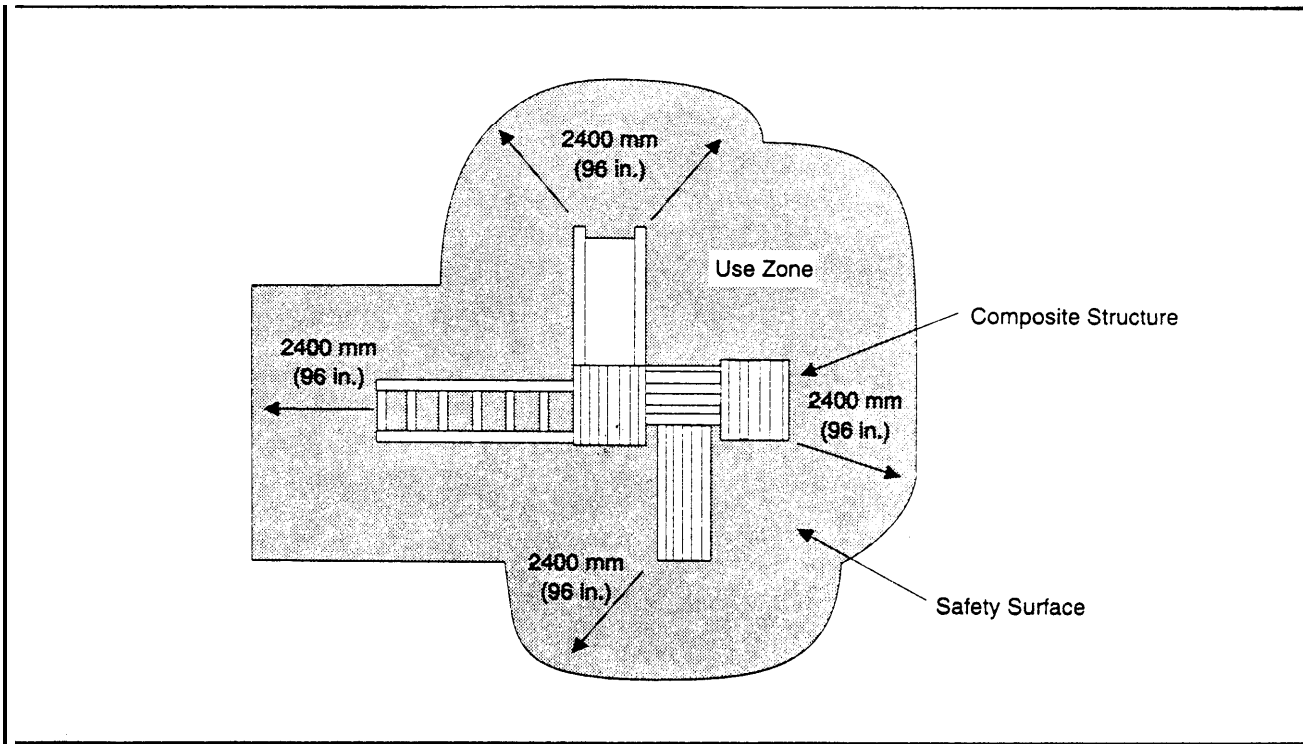

Figure 3-3: Typical stationary equipment use zone.
*a. Stationary Equipment.* Figure 3-3 illustrates a typical stationary equipment use zone. For toddlers, provide a minimum 1800 mm (72-inch) use zone from all sides of the equipment. For preschoolers and school age children, provide a minimum 2400 mm (96-inch) use zone from all sides of the equipment.